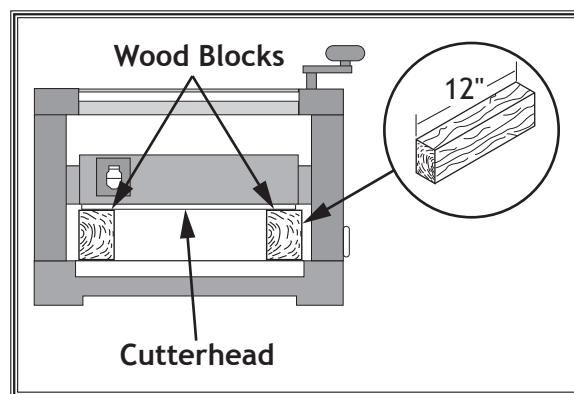

Figure 32. Checking cutterhead parallelism.
5. Place both pieces of stock on either side of table, and lower headstock until cutterhead just touches (see **Figure 32**).